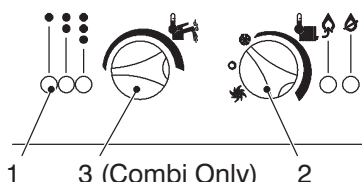

Figure 2
9. If the boiler is to be used for c.h and d.h.w position the function selector 2 as in figure 2. The appliance operation light 1 will flash every 2 seconds (operating boiler). Position the knobs 2 and 3 for the desired c.h. and d.h.w. temperature (for detailed information see the user manual).